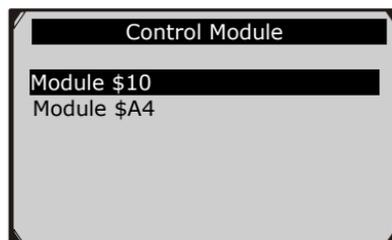

Figure 6.2
- If more than one module is detected, you will be prompted to select a module before testing (Figure 6.2).